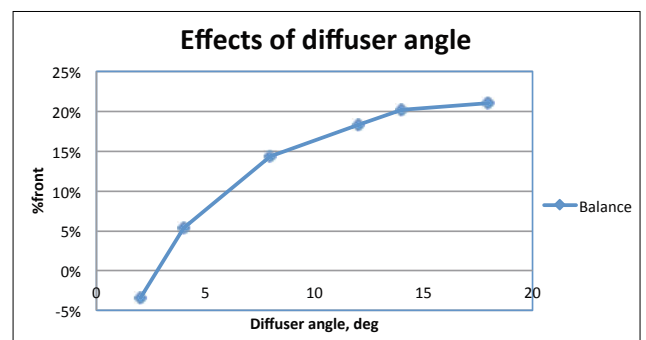

Figure 4: Aerodynamic balance was also profoundly affected by diffuser angle
**Figure 4** shows another important aspect, and that's the change to aerodynamic balance across the diffuser angle range. At the shallow diffuser angles there was very little downforce on the front end of our bluff body. In fact initially there